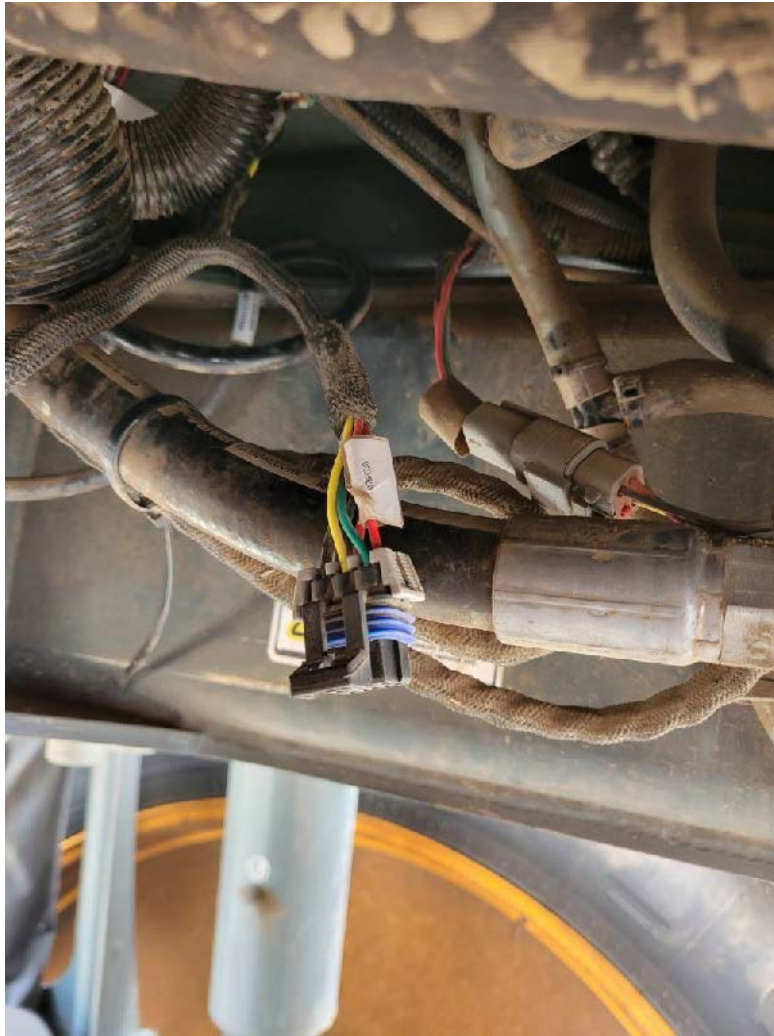

Figure 11 — ISO CAN BUS Interface Plug
15. *Figure 11:* Most machines are not equipped with a direct chemical injection system however some machines may have this system installed. Use the appropriate procedure: